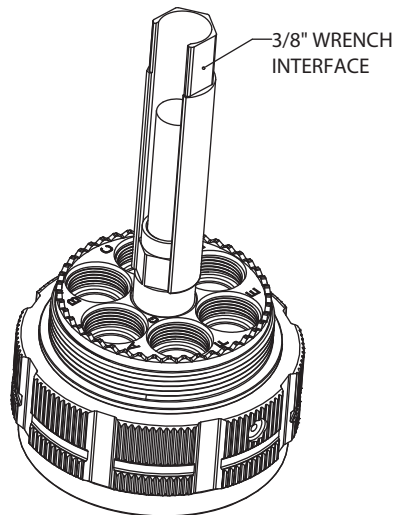

FIGURE 2
- B. Using the retention ferrule tool (Glenair P/N 607-011), and a 3/8" wrench, tighten the retention ferrule to a torque of 5 in-lb. (Figure 2)